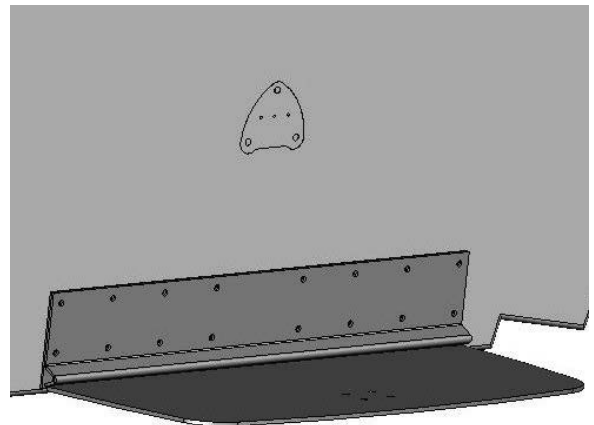

**Figure 2**
1. Each trim tab is installed as an extension of the hull. To achieve this, position the upper mount of each actuator with the trim tab on the same plane as the hull bottom. Support the trim tab assembly from below in the fully retracted position. Attach an actuator to the trim plane using the supplied 5/16-18 x 5/8" hex head machine screws. Tip back the upper mount such that the wires and the hydraulic ports face away from the transom. Position the assembly template over the end of the upper mount as shown in *Figure 2*. The radius on the top of the uprights should nest fully into the assembly template. This will temporarily locate the position of the upper mount.